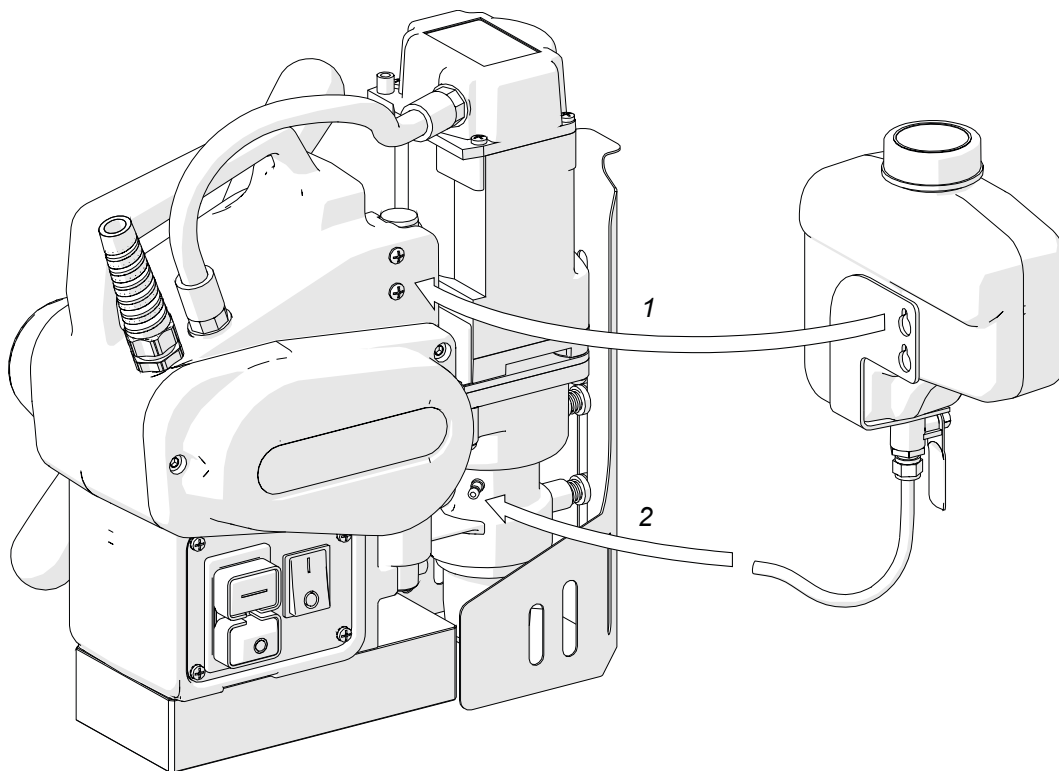

Figure 6. Mounting the cooling system bottle
Hang the cooling system bottle on the screws (1), (Figure 6) and attach the bottle hose to the coupling (2). Dismount in reverse order.